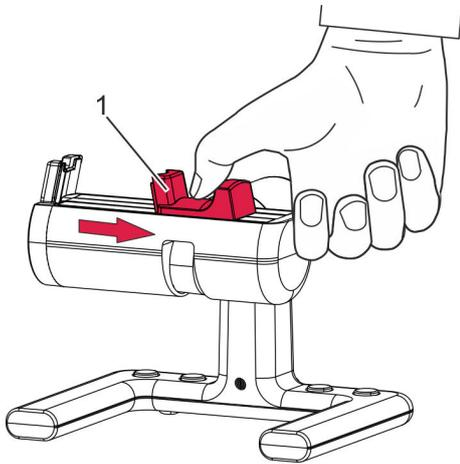

Fig. 8: Tightening the clamping jaws
1. ➤ Pull the clamping jaw (Fig. 8/1) outwards and hold it.